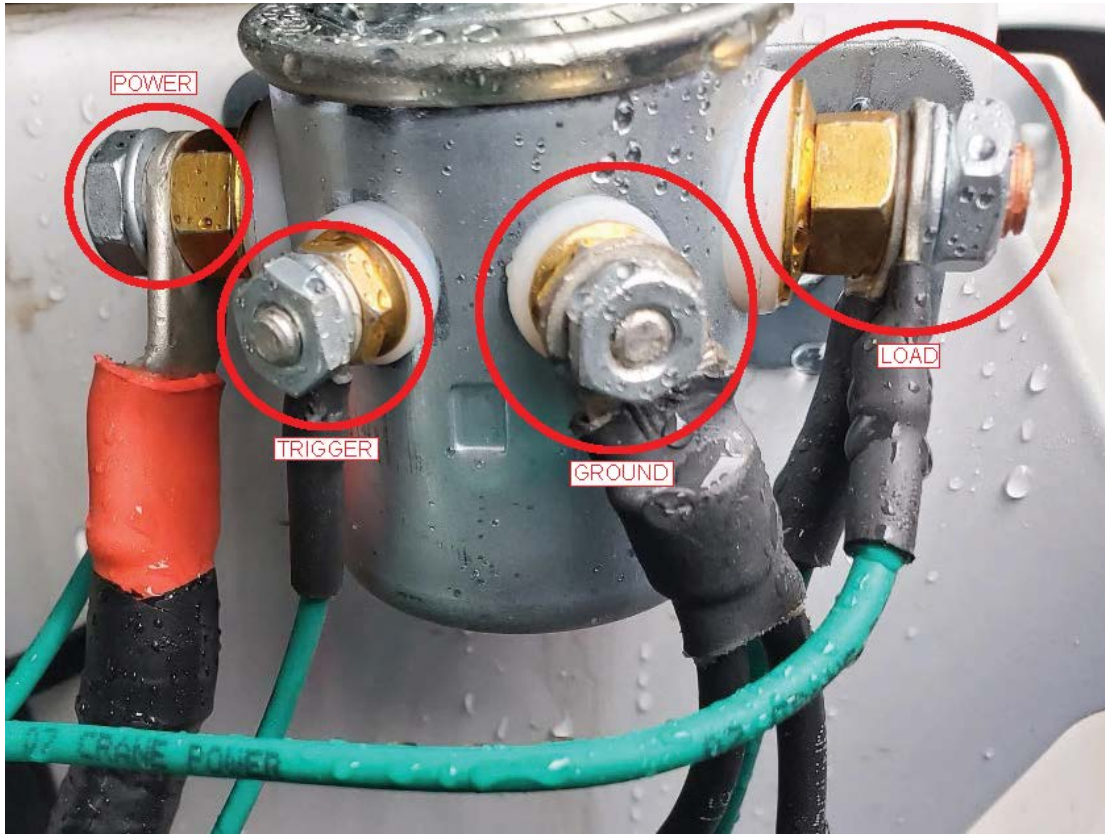

Figure 2.
6. Reconnect the existing POWER, TRIGGER, LOAD, and GROUND wires in the locations shown in Figure 2 below.